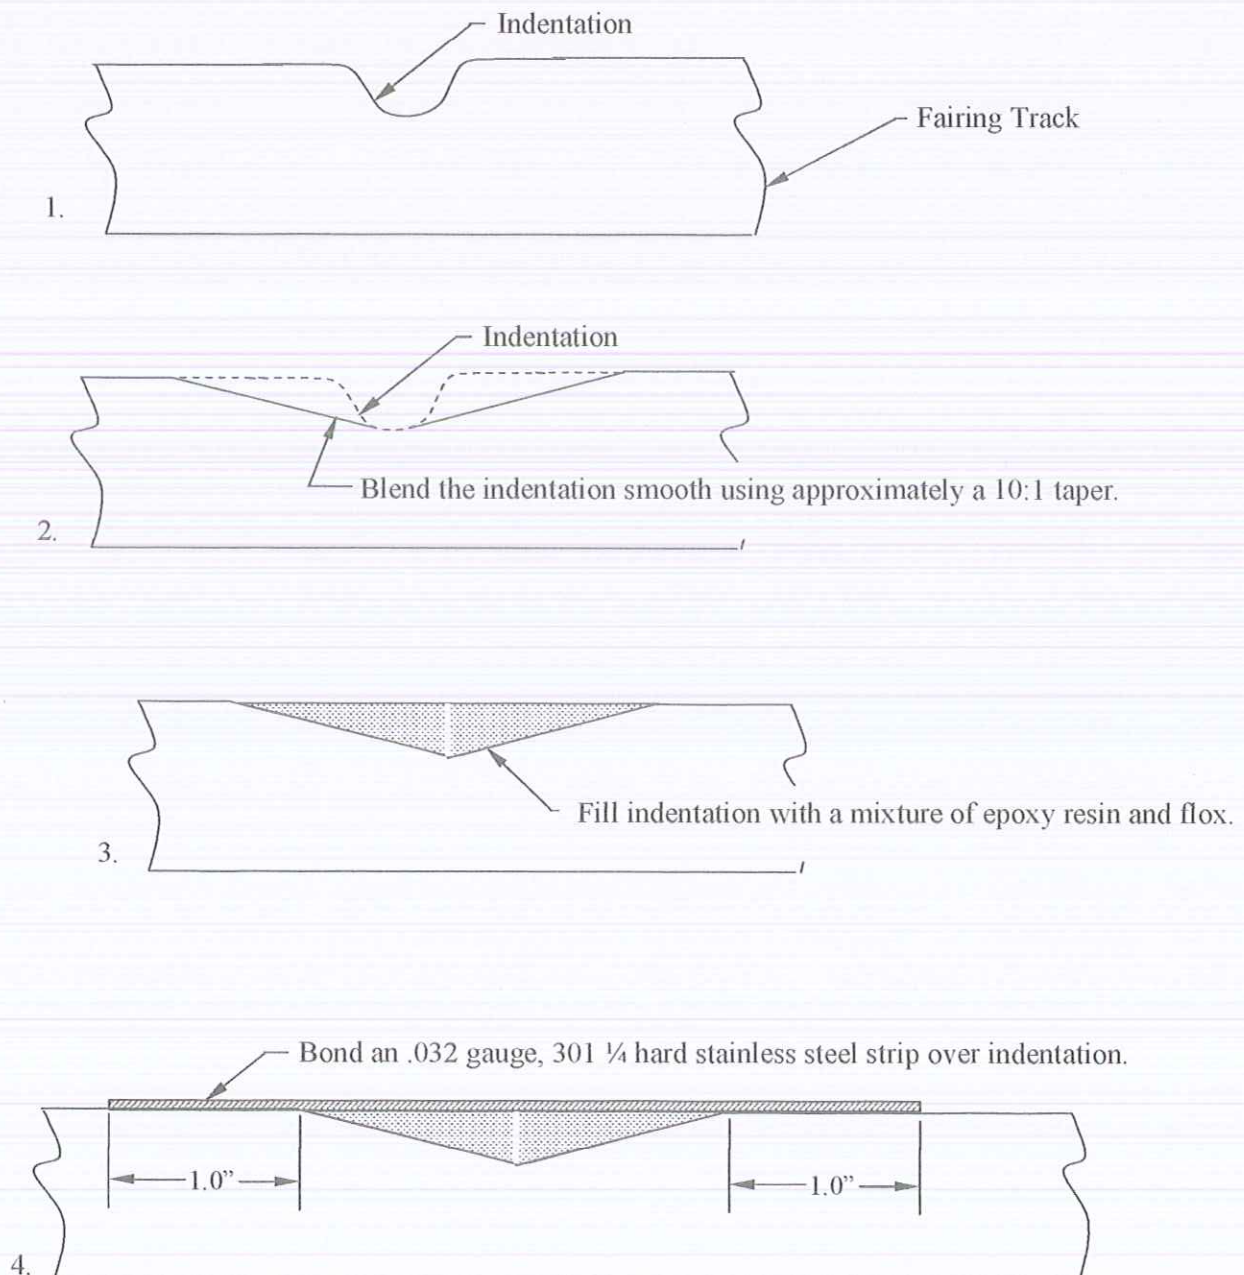

Figure 2. Repair Procedure.
8. Abrade the repair area within about 1 inch to either side of the indentation down to the clean aluminum substrate underneath as shown in Figure 2, and remove any corrosion. Use a scotch-brite abrasive mat, MIL-A-9962. Vacuum the area to remove any loose particles.
11. Fabricate a wear strip from .032 gauge, 301 1/4 hard stainless steel sheet approximately as shown in Figure 2. Extend the strip about 1 inch beyond the indentation on each side as shown in Figure 2. Make the strip as wide as the track in the area. Chamfer the front and aft edges of the strip to allow for the roller to ride up on it more easily. De-burr the edges of the strip. Vacuum the area to remove any loose particles.